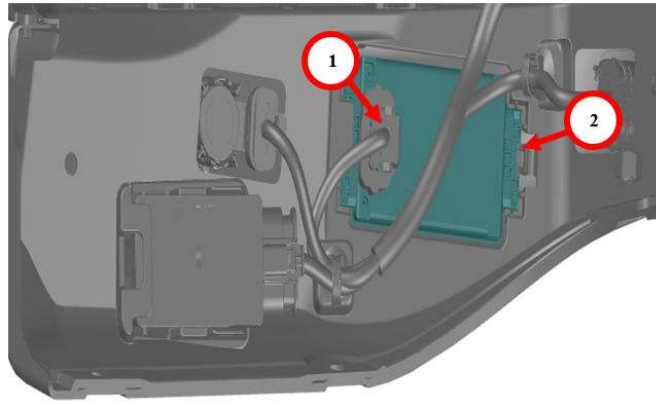

Fig. 4
5. Depress the shoe retainer to release and remove the MRR Fig. 4.
14. Install the MRR Fig. 4.